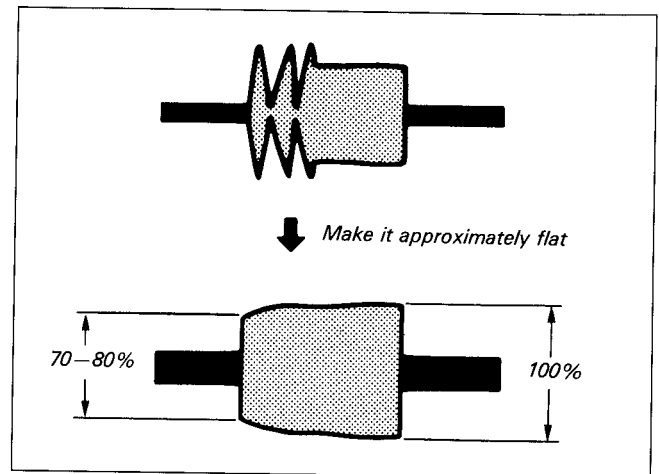

Fig. 7-69.
- 3) Slowly rotate the No.2 guide clockwise to make the entrance side waveform approximately flat. (See Fig. 7-69)